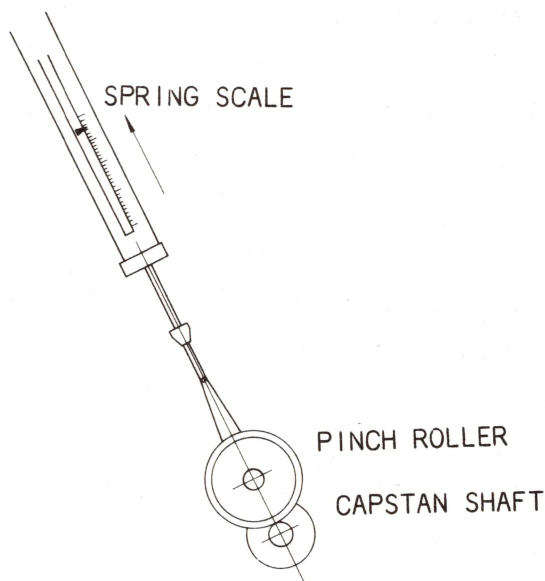

Figure 6-4 Pinch Roller Pressure Measurement
4. Hook a 3 kg (0 to 10 pounds) spring scale to the other end of the cord and pull the cord taut, straight to the center of the capstan as is shown in Figure 6-4.